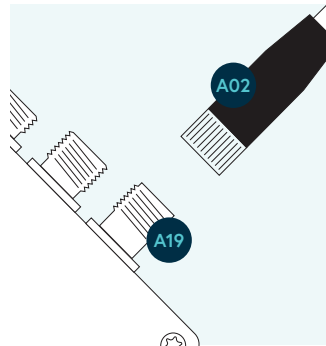

FIGURE 10
- | 3. Connect the screw connector of the power cable **A02** to the Via gateway connector **A19**. (fig. 10).